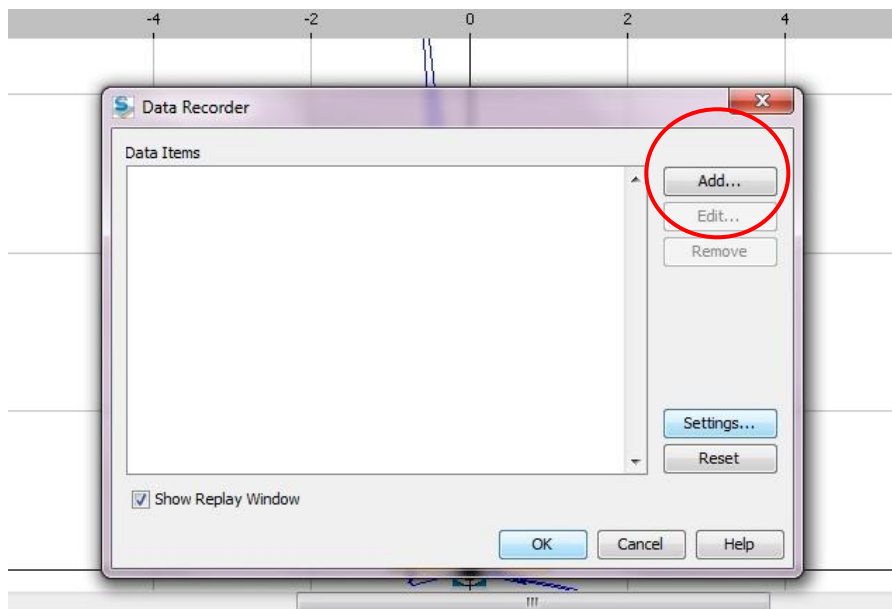

Fig. 13.
12. Next step is to add the device. Click on “Add...” Fig.13.